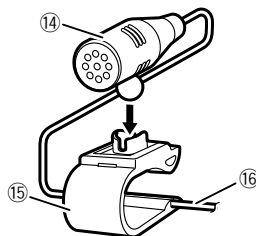
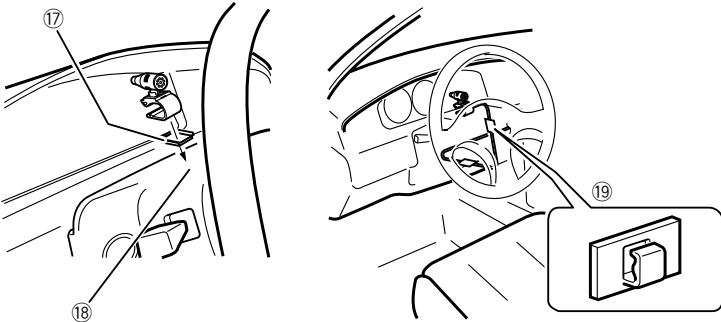

Fig. 9
Fig. 10
1. Install the microphone on the microphone clip. (Fig. 9)
- ⑭ Microphone
- ⑮ Microphone clip
- ⑯ Fit the microphone lead into the groove.
2. Install the microphone clip on the steering column. (Fig. 10)
- ⑰ Double-sided tape
- ⑱ Install the microphone clip on the rear side of the steering column.
- ⑲ Clamp